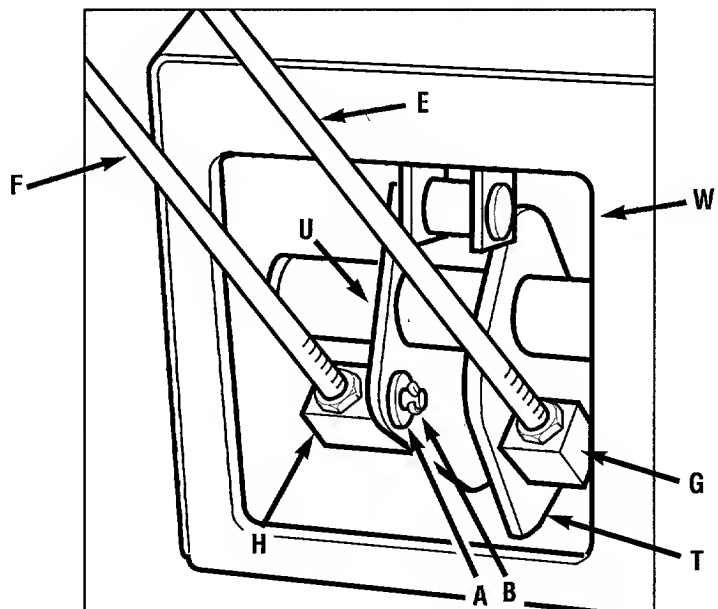
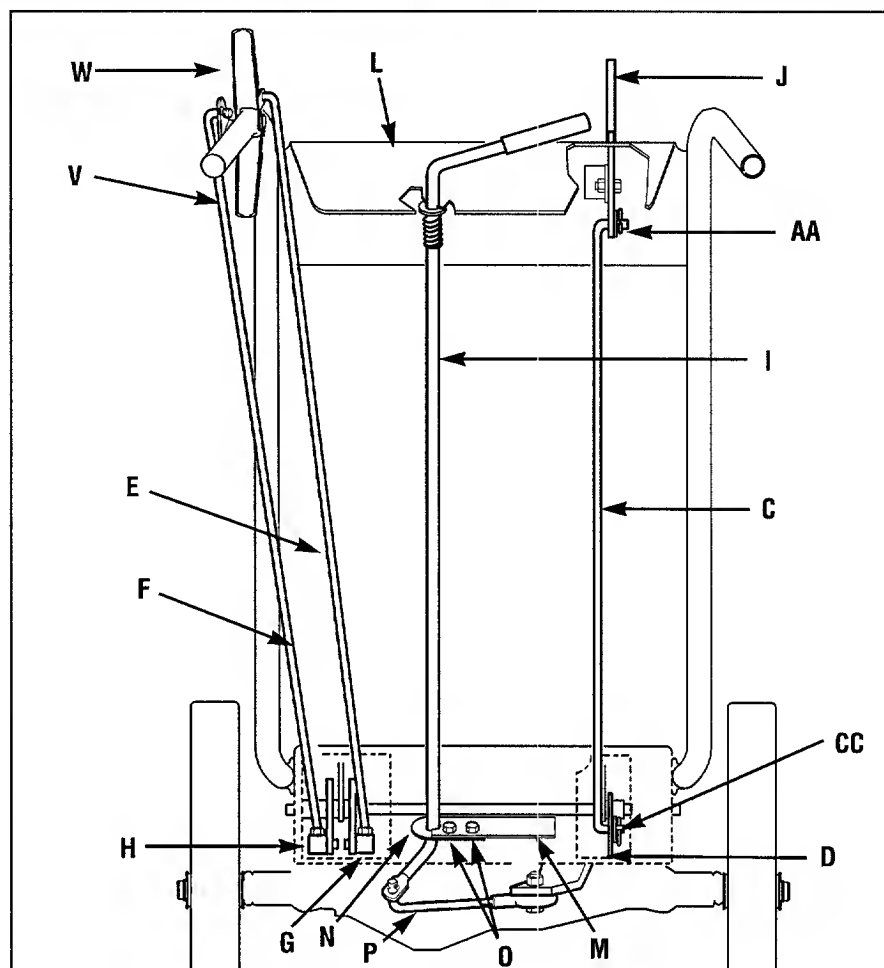
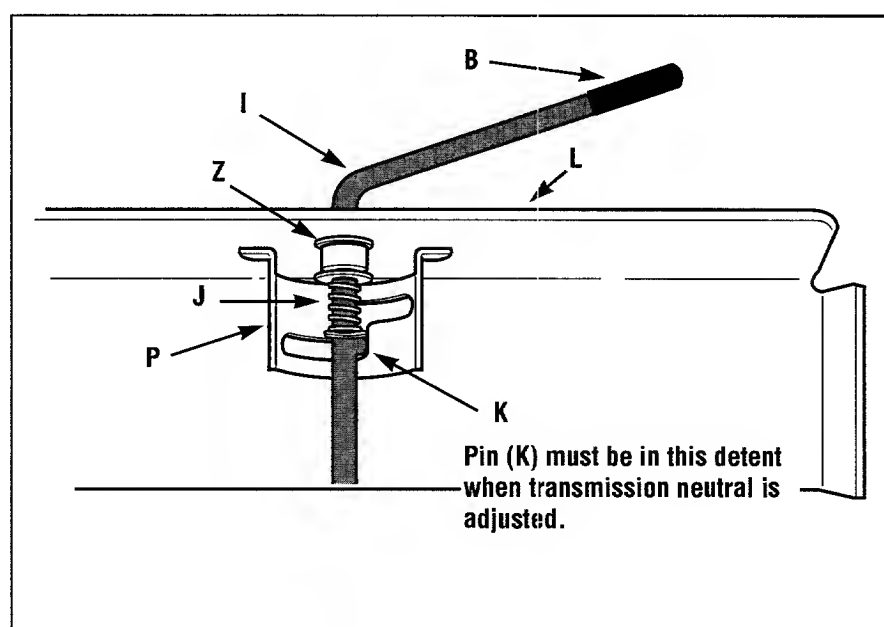
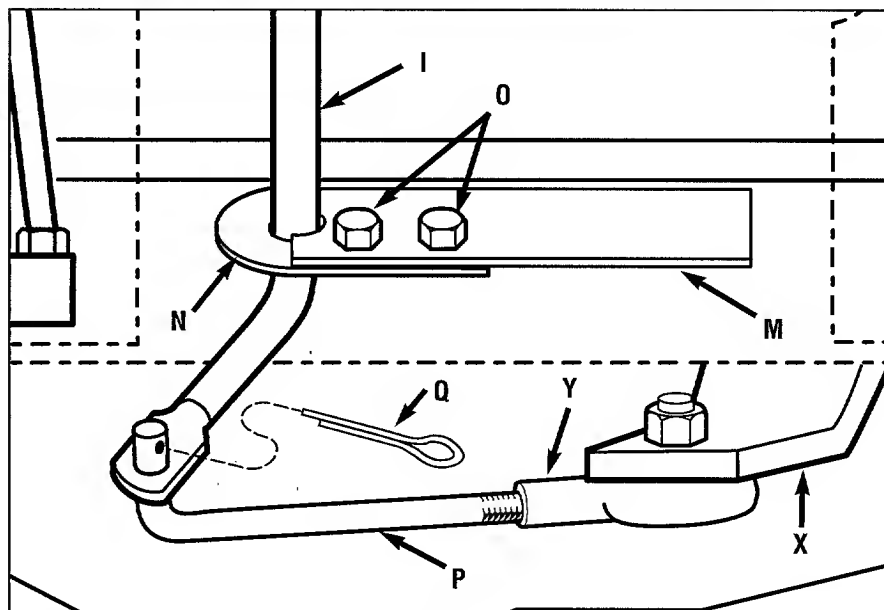

Figure 2-6: Left-hand control rods in detail.
Figure 2-7: Rear view of control rods.
Figure 2-8: Detail – Gear Select Lever in Neutral (N) position.
Figure 2-9: Detail - Transmission Neutral Adjustment.
1. Cut and remove any plastic tie(s) holding wheel drive rod (F, Figure 2-7) to left handlebar and blade drive rod (C, Figure 2-7) to right handlebar. Put rods aside.
1. Locate the wheel drive control rod (F, Figures 2-6 & 2-7) that you removed from the left handlebar in Step 2. This rod has a swivel block (H, Figure 2-6) on one end.
2. At left side of engine frame, insert swivel block (H, Figures 2-6 & 2-7) on wheel drive control rod into wheel drive control arm (U, Figure 2-6).
3. Add one 5/16" washer (A, Figure 2-6). Secure with cotter pin (B, Figure 2-6). Bend ends of cotter pin to secure the rod.
1. Locate control rod (E, Figures 2-6 & 2-7) attached at upper end to Operator Presence Control (W, Figure 2-7).
2. At bottom of control rod, insert swivel block (G, Figures 2-6 & 2-7) into control arm (T, Figure 2-6).
1. Locate the blade drive control rod (C, Figure 2-7) that you removed in Step 2. Insert one end of control rod into blade drive bracket (D, Figure 2-7). Add one 5/16" washer and secure with cotter pin (CC). Bend ends of cotter pin to secure.
2. Insert upper end of rod into bottom end of Blade Drive Control lever (J). Add one 5/16" washer and secure with cotter pin (AA). Bend ends of cotter pin to secure.
1. Using the edge of a piece of flat wood (such as a ruler), remove the vinyl grip (B, Figure 2-8) from the gear select lever (I). Place the wood edge against the edge of the grip and slowly pull off the grip.
2. Insert nylon bushing (Z, Figure 2-8) up into console (L).
3. Slide spring and washers (J) down onto gear select lever.
4. Insert gear select lever (I) up through nylon bushing (Z) in handlebar console (L, Figure 2-8). Guide pin (K) on gear select lever into groove in shift quadrant (P).
5. Hold lower part of gear select lever (I) against bracket (M, Figure 2-9). Position retaining plate (N) from parts bag in place as shown in Figure 2-9 (plate below bracket). Secure plate with two 1/4"-20 x 1/2" long screws (O) and 1/4"-20 locknuts.
6. Slide grip (B, Figure 2-8) back onto upper end of gear select lever (I).
7. Rotate gear select lever (I, Figures 2-8 & 2-9) clockwise until spur (K - short rod) on gear select rod stops in the neutral position detent on the shift pattern quadrant (Figure 2-8).
8. At bottom of control rod, thread shift link (P, Figure 2-9) partially into ball-joint (Y).
9. Move shift arm (X, Figure 2-9) from side to side as necessary into each transmission gear detent until transmission is in neutral.
NOTE: Moving shift arm (X) all the way to the left, and then one notch back to the right, should put transmission into neutral. When transmission is in neutral, unit will move freely when pushed while holding the Operator Presence Control lever (W, Figure 2-7) down. If transmission is NOT in neutral, there will be a slight drag on the wheels when pushing unit.
10. When shift arm (X) is in neutral position, rotate shift link (P) toward end of gear select lever rod (I). Adjust length of shift link (P) as necessary to fit into hole in bottom of gear select lever (I).
NOTE: Pin (K) on Gear Select Lever (I) must be held in the neutral position detent on the shift quadrant (see Figure 2-8) while shift link (P, Figure 2-9) is adjusted.
11. Insert hooked end of shift link (P, Figure 2-9) into hole in bottom end of gear select lever (I) and secure with cotter pin (Q). Bend ends of cotter pin. **NOTE:** It may be necessary to lift gear select lever (I) to install shift link (P).
12. Remove unit from shipping crate. To remove, hold down Operator Presence Control lever (W, Figure 2-7) which releases the wheel brake.
13. Hold down Operator Presence Control lever (W, Figure 2-7) and push unit forward and backward. The wheels should move freely. If not, adjust length of shift link (P, Figure 2-9) as necessary.
14. Put the Gear Select Lever in neutral (N), release all of the control levers, and try to push the unit forward and backward. The wheels should not turn. If they do turn, an adjustment is necessary. **DO NOT OPERATE THE UNIT UNTIL THE WHEEL BRAKE MECHANISM HAS BEEN ADJUSTED AND IS WORKING PROPERLY.** See "Wheel Brake Adjustment" in Section 5 "Maintenance."
1. Move mower to a level area. Press and hold down Operator Presence Control lever (W, Figure 2-7) to move mower.